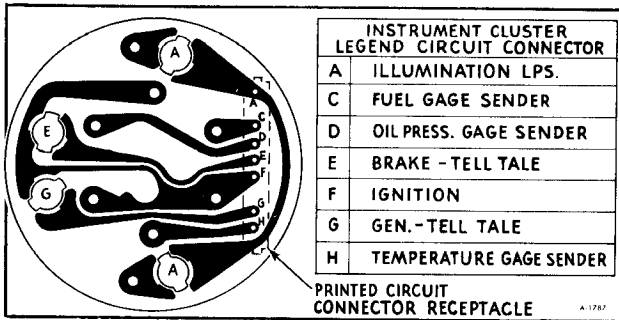

Figure 10—Gauge Cluster Printed Circuit
is made to this gauge by a (7) pin connector which feeds a printed circuit shown in Figure 10.
- a. If gauge does not register with ignition on: this may be caused by a break in the circuit between the gauge and the switch through the printed circuit or a short between the connector lead and the ground (See figure 10).
cles covered in this manual. A variable resistance sending unit is connected to an engine oil pressure gallery to vary the amount of resistance to ground with changes in engine oil pressure. Current is fed through the printed circuit on the back of the gauge (figure 10) from the wiring harness.